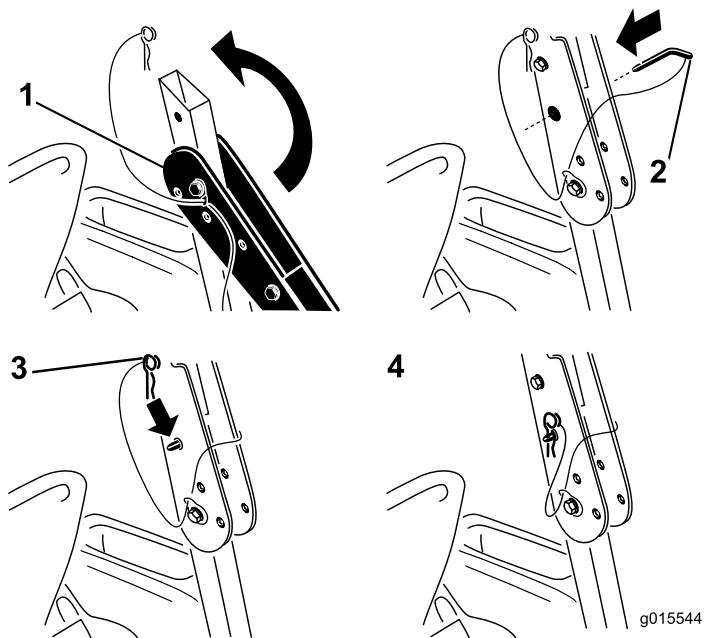

Figure 8
4. Raise the rollbar into the upright position and lock it in place with both pivot pins as shown in Figure 8.
5. Lock the rollbar in the upright position with the pivot pins. Use the hairpins at the end of each lanyard to secure the pivot pins (Figure 8).